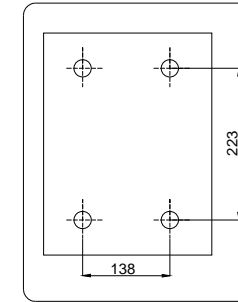

Fig.15 Control box mounting size
- Place the control box in the desired mounting position, open the cover of the control box, remove the control board, mark the mounting holes, and install the control box, fix the control board back to the box. See Fig.15